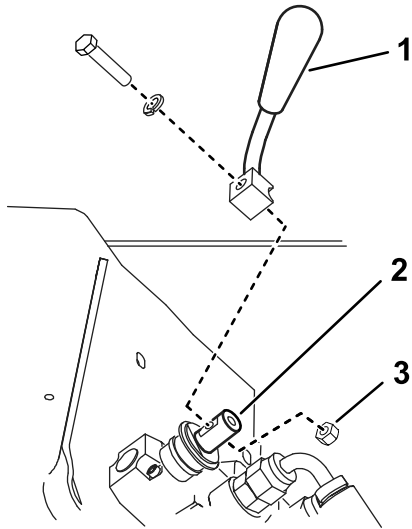

Figure 3
2. Secure the lever to the speed-selector valve using the bolt, lock washer, and nut as illustrated in Figure 3.